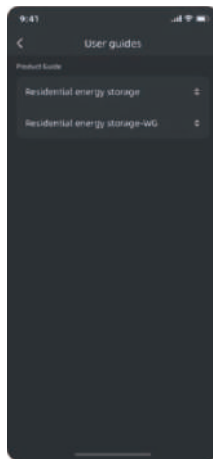

Figure 1
1)Figure 1: Display a list of all supported product models.